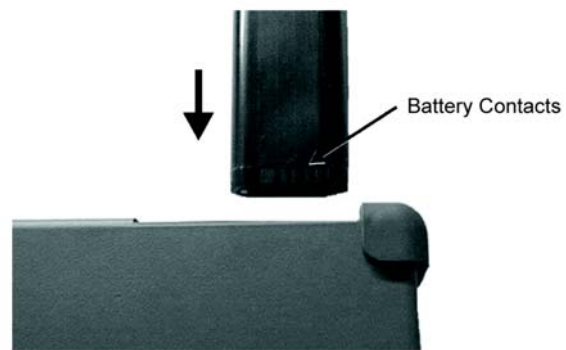

Figure 3-2. Battery Orientation
5. Replacement is the opposite of removal. Note the orientation of the battery contacts, and be sure to insert the new battery with the contacts facing the rear of the unit (Figure 3-2).